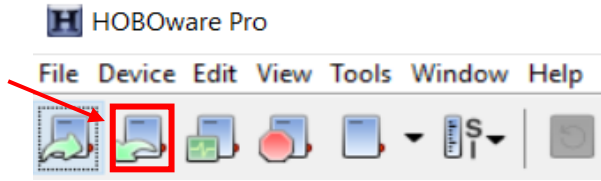

Figure A.5.11: HOBOWare “Readout” button.
3. Click the “Readout” button on the top left corner of the screen (Figure A.5.11).